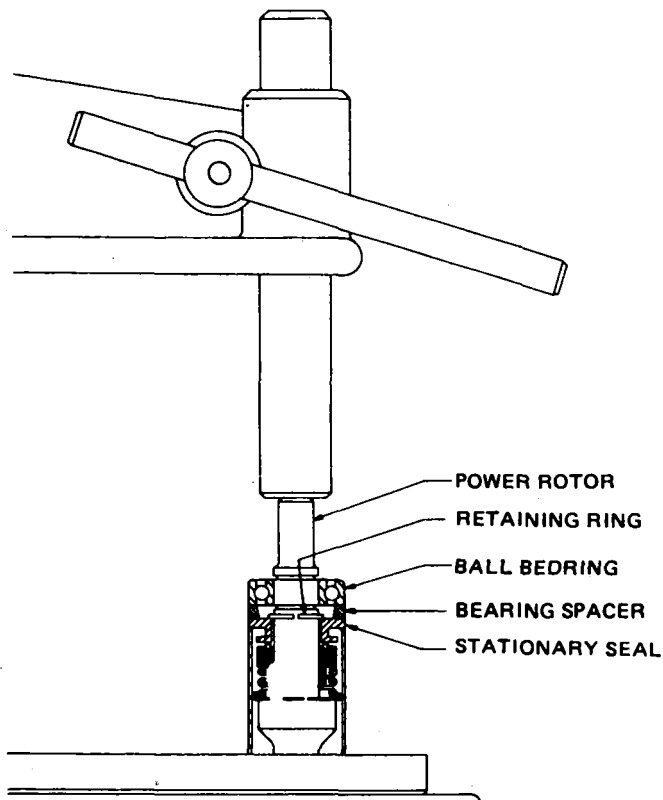

Figure 3.
4. Insert the power rotor assembly into a press and press off the bearing spacer and stationary seat of the mechanical seal - Fig. 3).